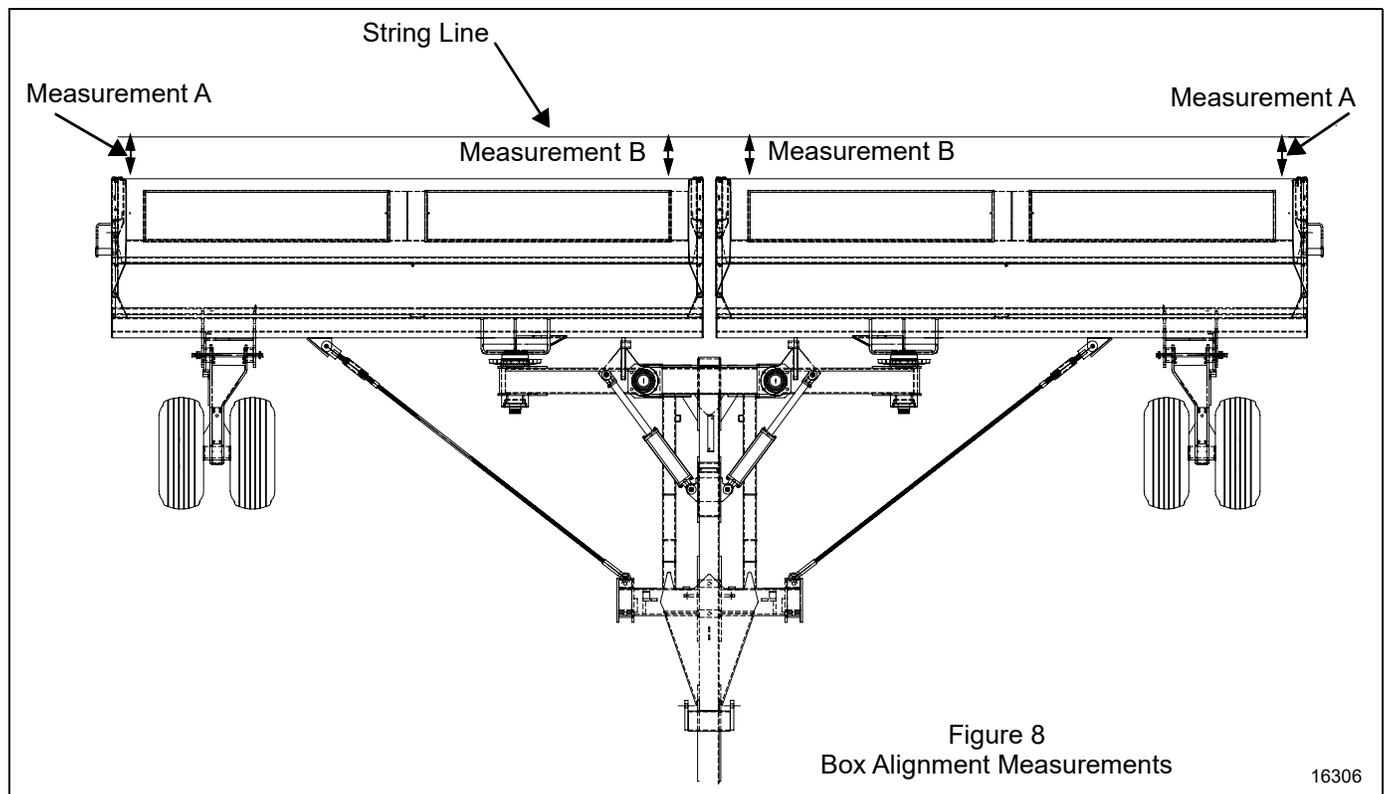

Figure 8
2. Extend a string line to the outer ends of the wing boxes as shown in Figure 8. Measure from the string line to each box as shown. For each box, measurement A should be 1 to 1-1/2 inches greater than measurement B.
4. Make adjustments at the box end of each pull cable as shown in Figure 8. Loosen the jam nuts on the adjustment trunnion screw. Turn the screw in or out to move the box end forward or backward as required. Tighten the jam nuts.